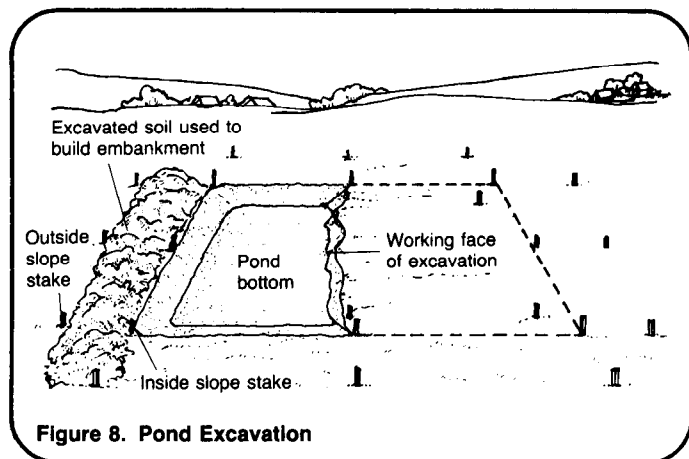

Figure 8. Pond Excavation
1. Begin excavating at the inside slope stakes. Dig at the slope specified by the project designer until the bottom elevation is reached. Check this elevation with a surveyor's level and rod. See Figure 8.